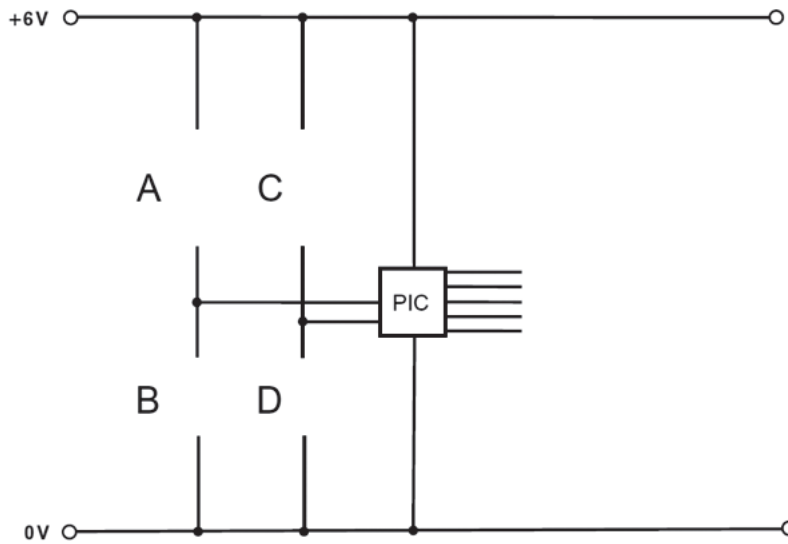

Fig. 1
2. Part of a basic PIC microcontroller circuit is shown in **Fig. 1**. Insert on the part completed circuit in **Fig. 1**; the symbols for a 10 k Ω resistor at point A, an LDR at point B, a toggle switch at point C and a 1 k Ω resistor at point D.